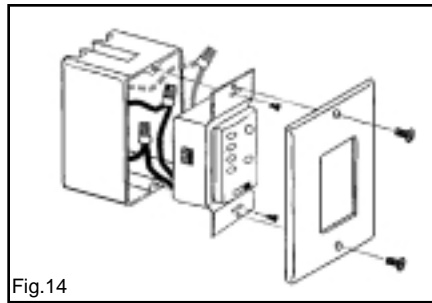

Fig.14
Step 3.(Fig. 14). Carefully tuck the wire connectors inside the junction box. Secure the wall transmitter with the two screws provided. Attach the wall plate over the wall transmitter and secure with the two screws provided.